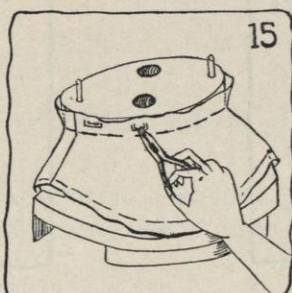

FIG. 15.
- b. Remove staples, pins, or tacks, and cord (see Figure 15).